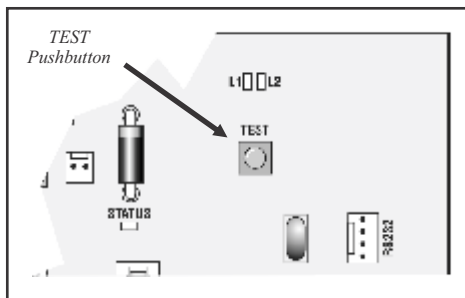

Figure 29 CP75 Controller TEST Pushbutton
15. **Press and hold** the TEST button (Fig 29) down for 1 flash of L1, and then release. L2 will go off, and L1 will now be flashing once per second.